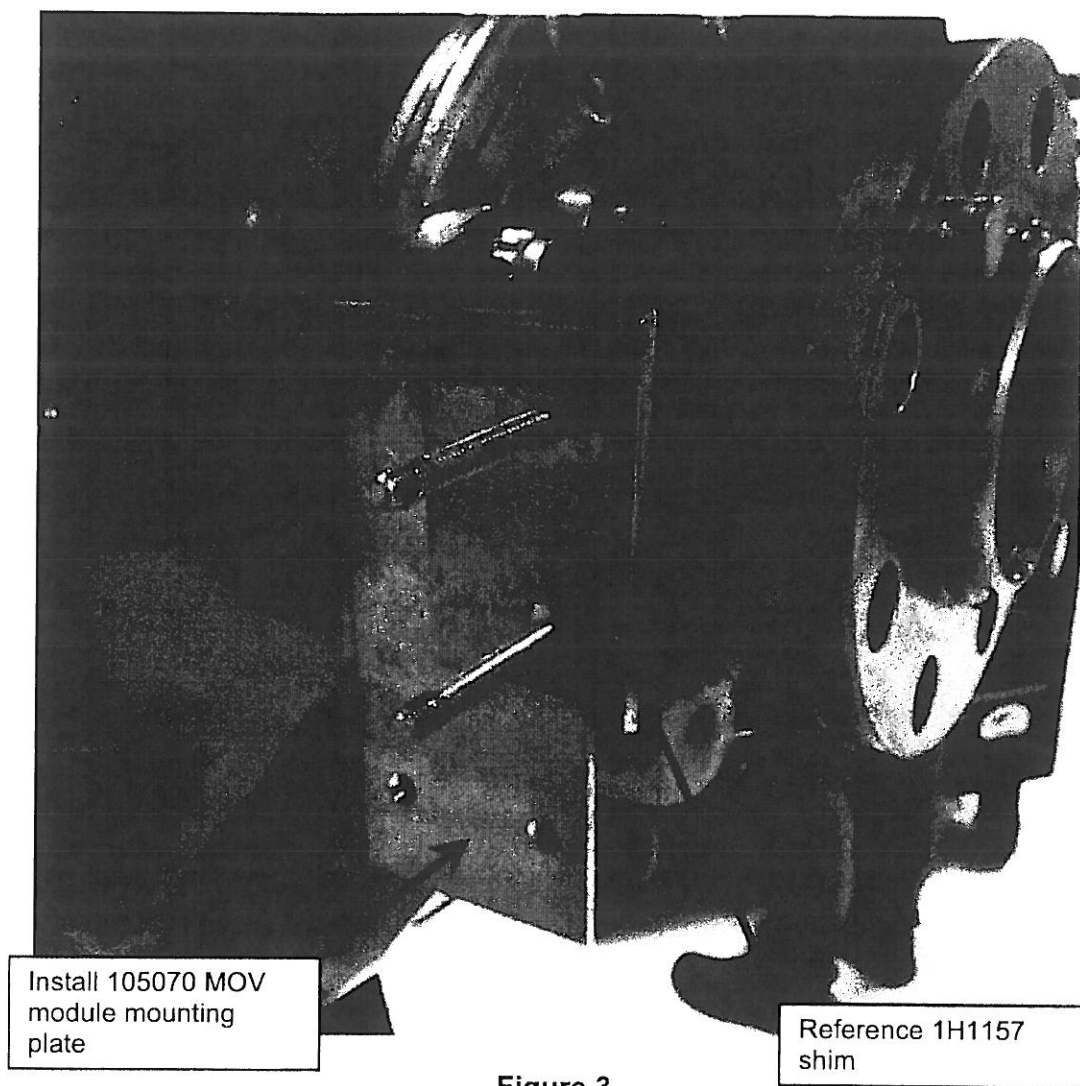

Figure 3
- D. Temporarily position MOV mounting plate (P/N 105070) and brush block shim (P/N 1H1157) on brush block bracket with two 105398-53 10-32 hex bolts as shown in Figure 3. Install a B-3837-0332 CRES flat washer under the head of each bolt.